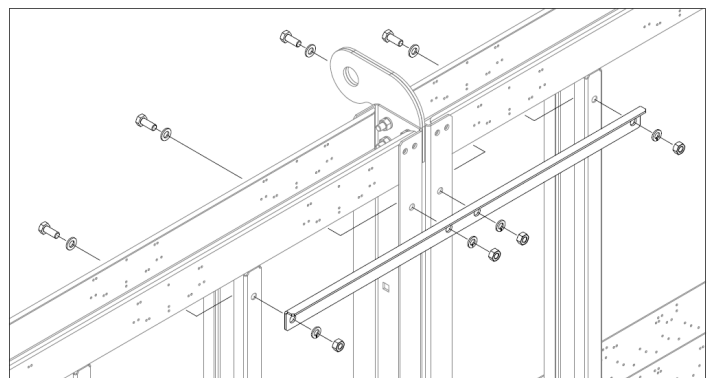

Figure 11
- 4 from the upper stiffener member. Refer to **Figure 11**.